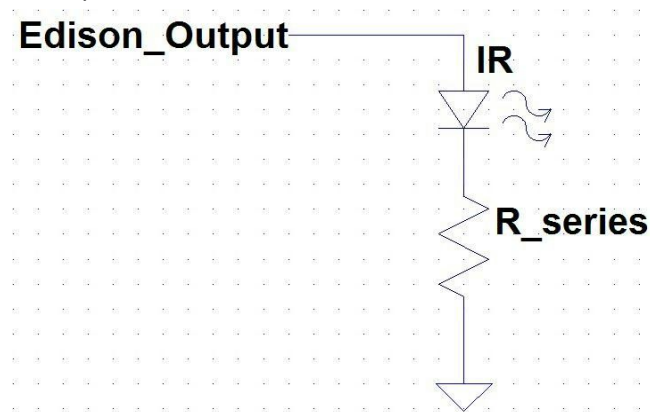

Figure 3. Diagram showing Edison directly sourcing IR emitter
- a. Directly source current from the Edison as shown in figure 3